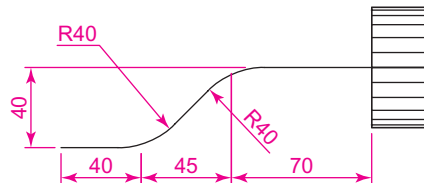

Fig. 18.3 First example – Extrude Faces tool – first stages
First example – Extrude Faces tool (Fig. 18.3)
2. In the **ViewCube/Right** construct a cylinder of radius **30** and height **30** (Fig. 18.3).
3. In the **ViewCube/Front** construct the pline Fig. 18.3. Mirror the pline to the other end of the cylinder.